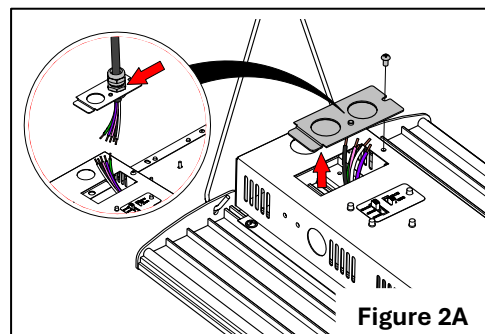

Figure 2A
3. Remove the wiring cover to access the fixture leads [Figure 2A].
4. Run the supply leads to the fixture with a rigid/flexible conduit, or a suitably rated flexible cord to either ½" trade size KO in the wiring cover. Use the appropriate conduit/cable connector (provided by others) to secure the supply to the fixture [Figure 2A].